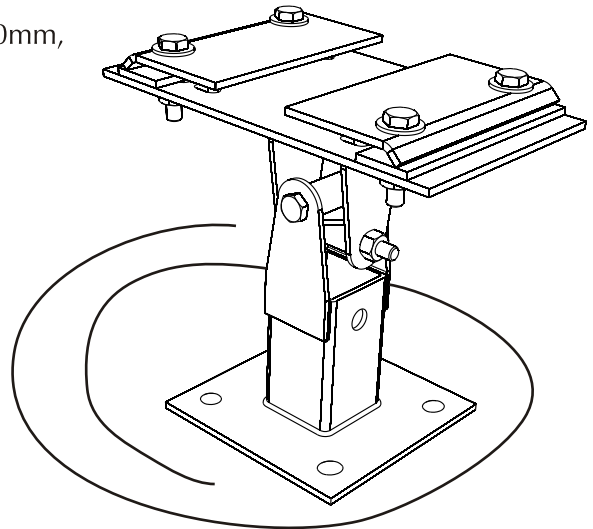

Fig.7
• What is included in the mount package (Fig.7)